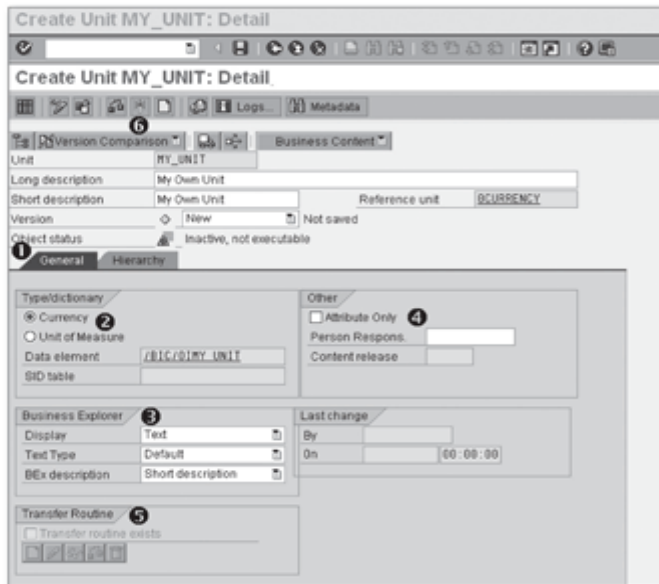

Figure 3.50 Creating a Unit Custom InfoObject
6. Click on the Continue button (5). The next screen displays the InfoObject definition and the General tab (as shown in 1 of Figure 3.50).
7. Select either Currency or Unit of Measure, as shown in ❷ of Figure 3.50. *Unit* InfoObjects are always created with reference to the SAP-delivered definition of unit/currency. So, if the data type is selected as CURRENCY, the reference unit is always 0CURRENCY. If Unit is selected, the reference unit is always 0UNIT.
Other settings are shown in ❸, ❹, and ❺ of Figure 3.50. These settings have the same meaning as those explained in Section 3.5.1 and 3.5.2.
8. Activate your unit InfoObject (❻).